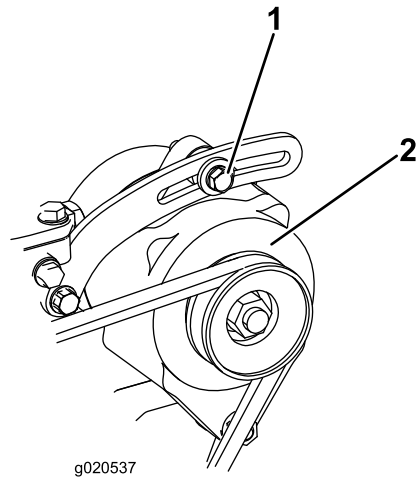

Figure 99
1. If the deflection is not 10 mm (3/8 inch), loosen the alternator mounting bolts (Figure 99).